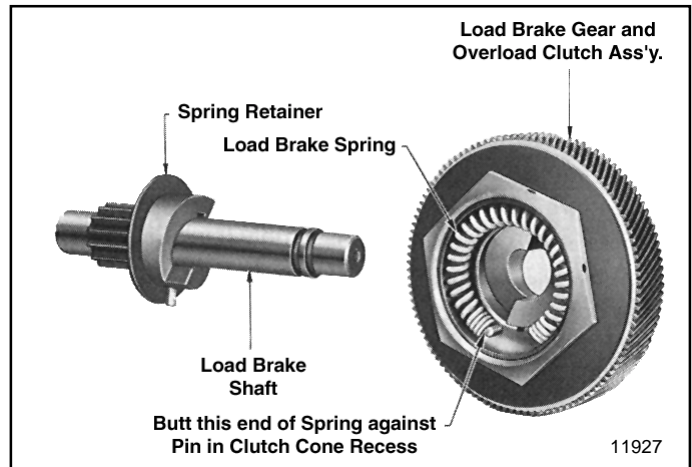

Figure 7-21. Load Brake Gear and Overload Clutch Assembly Removed from Load Brake Shaft Showing Brake Spring Installed in Clutch Cone
- (3) Remove load brake gear and overload clutch assembly from output pinion shaft. Pull the spring from its recess in clutch cone (Figure 7-21) but do not further disassemble gear and clutch assembly. See "Note" below.
Note: Disassembly of the load brake gear and overload clutch assembly (Figure 7-21) is not recommended. Clutch pressure is preset by the factory at assembly to provide the correct torque to allow the clutch to refuse loads within a specified range (110% of rated load to 180% rated load). It is suggested whenever there is a need to repair or readjust the gear and clutch assembly that it be sent to an authorized **YALE** Hoist Repair Station where
- (1) Before assembly, all parts should be cleaned and inspected to determine their serviceability. Replace parts that are excessively worn or damaged.
- (2) Reassemble load brake parts following a reverse procedure of the disassembly steps listed above, observing the assembly steps (3) through (6) below.
- (3) Before installing spring in its recess in center of clutch cone (Figure 7-21) apply a good grade of ball bearing grease to inside of recess. Spring must be positioned exactly as illustrated, butted against pin.